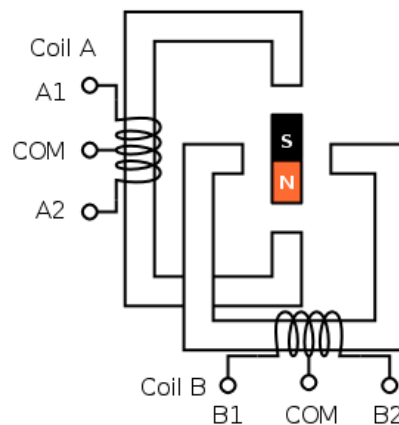

Figure 3: Unipolar Stepper Motor.
**Unipolar Stepper Motor.** A coil in a unipolar motor is split in half and three leads are exposed for each phase. One lead is used as the voltage input, and the other two leads are connected to ground (at different times) to complete the coil circuit. Hence, for a unipolar motor with two phases, six leads come out of the motor as opposed to four in a bipolar motor. Figure 3 shows a basic diagram of the coils in a unipolar stepper motor.
When a coil is energized, the rotor aligns itself with the coil based on the magnetic field produced. For example, consider coil A2 as shown in Figure 3 energized first. Then, if B2 is energized next, the rotor shifts and aligns itself with coil B2. Energizing coils in the order